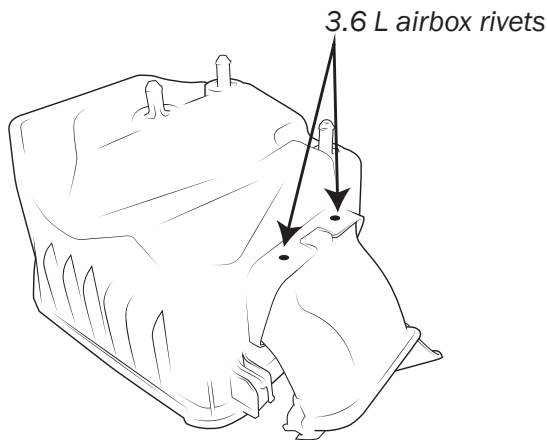

Figure 4.1
- a. 3.6 L Gas Models: you will need to drill out the rivets that attach the factory “snorkel” to the airbox. (Fig. 4.1)